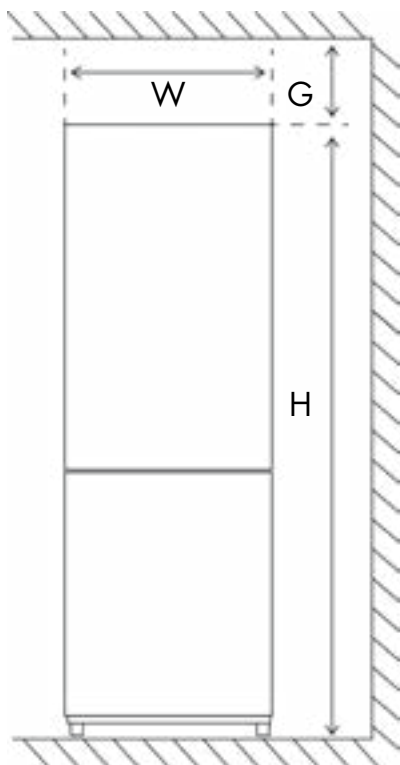

Figure 1: Front view
- Figures 1 and 2 only illustrate the space required for the appliance.